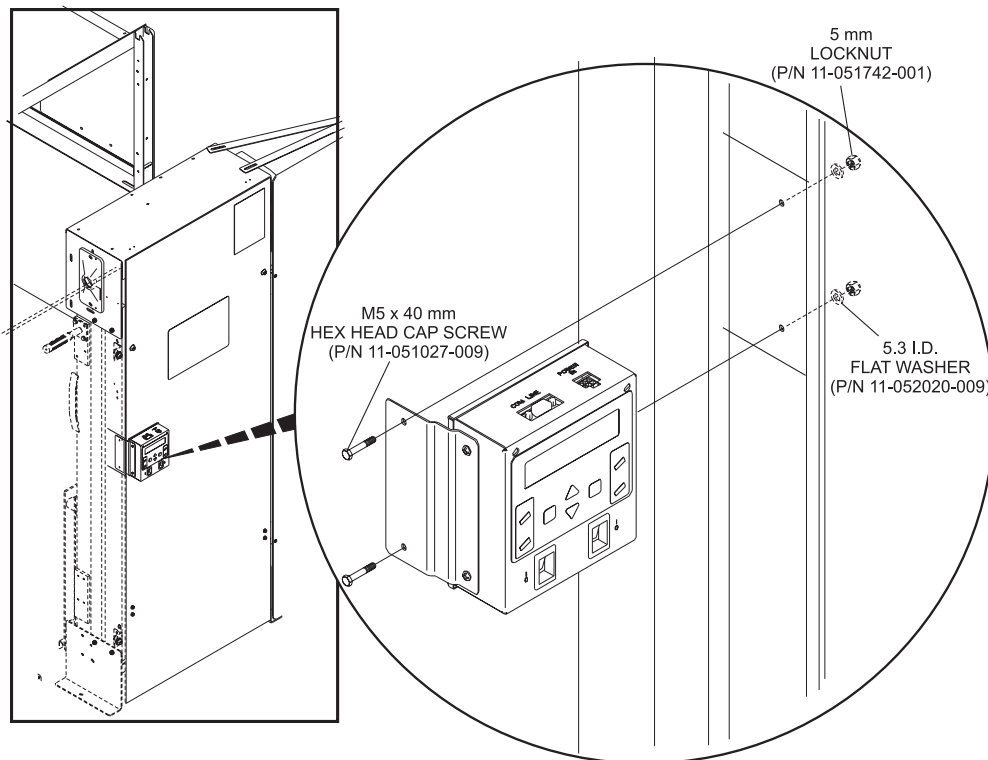

Figure 6
2. Secure Remote Display to the elevator with two M5 x 40 mm hex head cap screws (P/N 11-051027-009), two 5.3 mm I.D. flat washers (P/N 11-052020-009) and two 5 mm locknuts (P/N 11-051742-001). Refer to *Figure 6.*